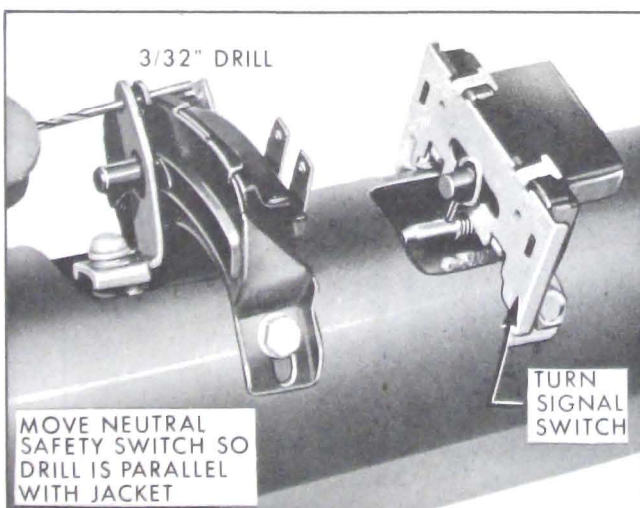

Figure 10-21—Checking Neutral Safety Switch Timing
3. Insert a 3/32" drill or a piece of 3/32" drill rod through gauging hole in operating lever and through gauging hole in switch body. **CAUTION:** Be careful not to cause shift control lever to move out of neutral position. See Figure 10-21.